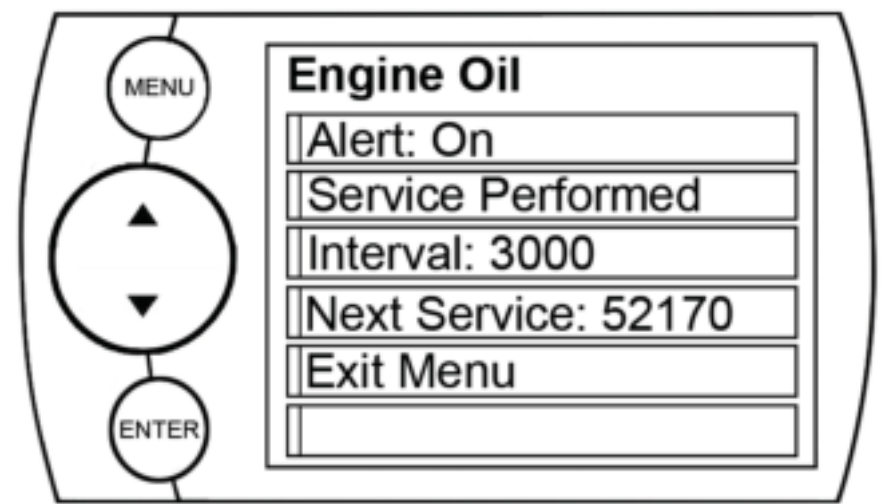

Figure 16
1. First you need to setup the interval value. In figure 16 we entered 3,000.